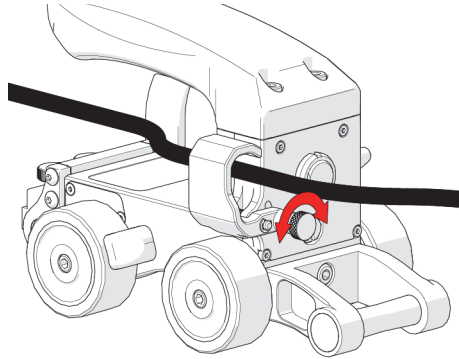

Figure 2-12 Close clip and twist latch to lock
4. Twist the latch to lock the cable management clip closed (see Figure 2-12 on page 45).